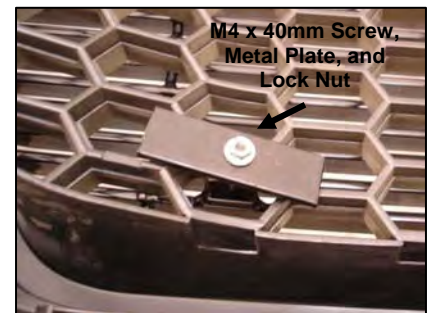

Figure 1
5. Loosely attach Billet Grille by holding 60mm Metal Plate behind factory grille shell and inserting M4 x 40mm Phillips Screw (from the front) through the Billet Grille hole and Metal Plate, secure it with Lock Nut provided (Figure 1).